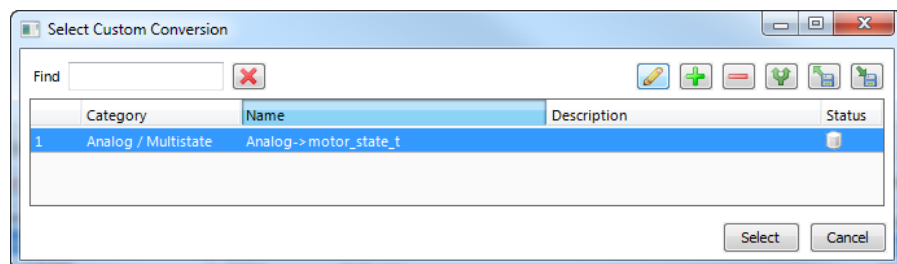

Figure 77: Choose a custom conversion.
- To add a new conversion to this item, click on the button. A dialog opens, which displays the matching adapters already available in the library as shown in Figure 77.